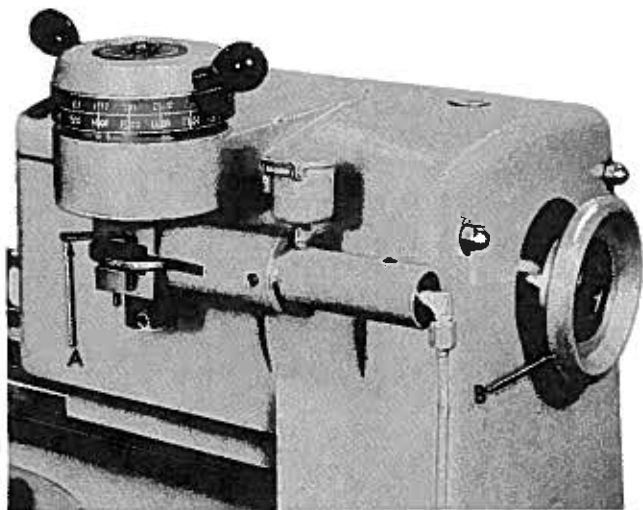
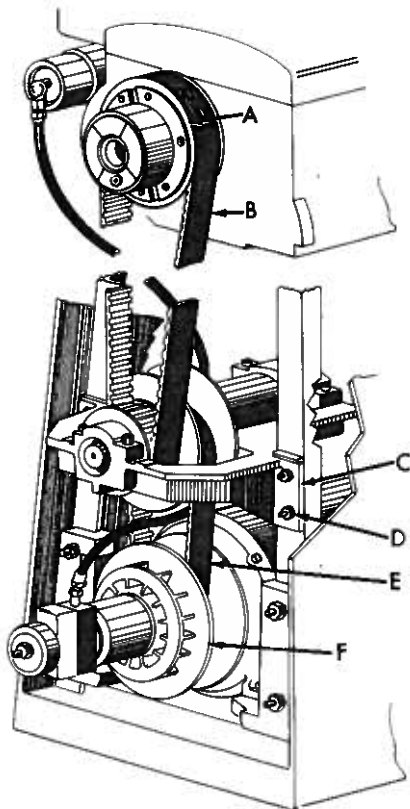
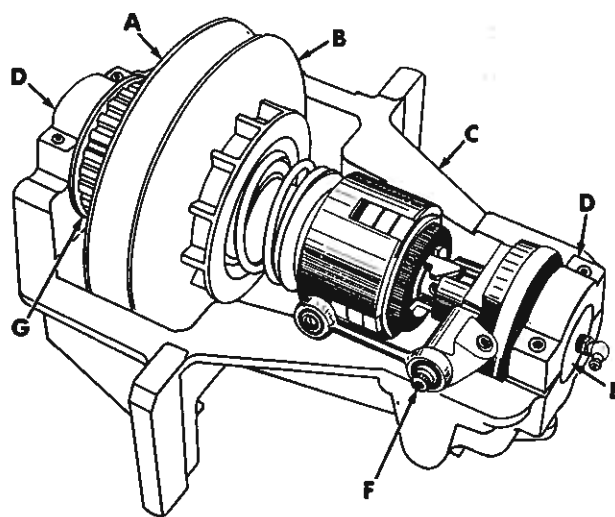
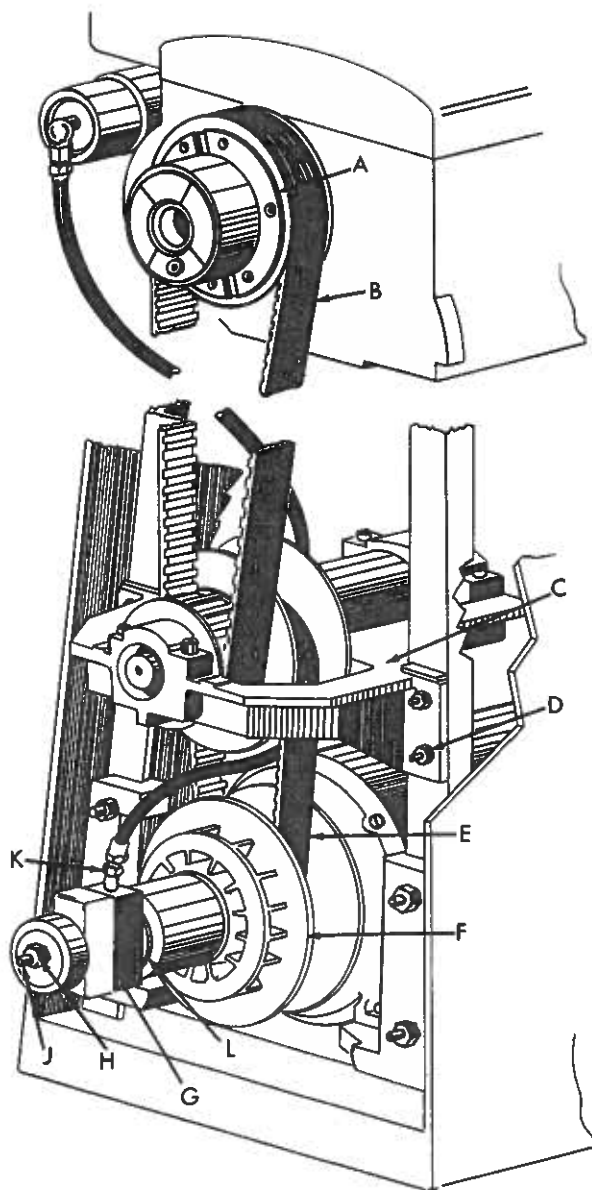

Figure 21
Figure 22
Figure 23
Figure 24
2. Remove spindle handwheel (B) (fig. 21), belt guards and front cover.
3. Turn variable dial back to lowest speed and lock dial in place with pin (A).
4. Holding variable dial against low speed stop, pull on outer sheave of lower variable motor pulley (F) (fig. 22) until variable belt (E) is loose.
5. Thru front cover opening, remove 5/16"-18 hex cap screw (F) (fig. 23) and spacer from clutch linkage.
6. Remove four hex nuts (D) (fig. 22). Raise countershaft (C) slightly and slip timing belt (B) off spindle pulley (A). Lower countershaft and slip variable belt (E) off variable motor pulley (F).
8. Remove bearing caps (D) (fig. 23), snap rings and countershaft spindle (E) from bracket (C).
11. Install spindle in countershaft bracket and secure in place with snap rings and bearing caps (D).
13. Position the countershaft (C) (fig. 22) so variable belt (E) can be slipped on motor pulley (F), then raise countershaft so timing belt (B) can be slipped on spindle pulley (A).
14. Place countershaft assembly on the four mounting studs (D), then snug up the four hex nuts. Refer to Tensioning Timing Belt steps 2-5.
16. Remove lock pin (A, fig. 21) from variable cam housing.
1. Holding variable pulley (F fig. 24) so it will not rotate, turn lock nut (H) -- clockwise if speed is too low, counter-clockwise if speed is to high.
4. Pull on outer sheave of lower variable motor pulley (F) (fig. 24) until variable belt (E) is loose.
6. Remove four hex nuts (D) (fig. 24). Raise countershaft (C) slightly and slip timing belt (B) off spindle pulley (A). Lower countershaft and slip variable belt (E) off variable motor pulley (F).
9. Remove timing belt from countershaft pulley (G).
10. Place new timing belt on countershaft pulley (G).
11. Install spindle in countershaft bracket and secure in place with snap rings and bearing caps (D). **IMPORTANT:** Make sure variable belt is in place before installing bearing caps.
12. Position the countershaft (C) (fig. 24) so variable belt (E) can be slipped on motor pulley (F), then raise countershaft so timing belt (B) can be slipped on spindle pulley (A).
13. Place countershaft assembly on the four mounting studs (D), then snug up the four hex nuts. Refer to Tensioning Timing Belt Steps 2-5.
15. Remove lock pin (A, fig. 21) from variable cam housing.
2. Measure distance from end of shaft (J, fig. 24) to locknut (H). NOTE: Record this dimension.
3. Disconnect fitting (K) and drain oil from unit.
4. While holding variable pulley (F) from rotating remove locknut (H).
5. Pull dual hydraulic cylinder (G) and outer half of variable pulley (F) off the shaft (J).
6. Press dual hydraulic cylinder (G) with bearing (L) from variable pulley (F).
7. Slide new dual hydraulic cylinder with bearing into variable pulley hub (F), then slide the assembly onto shaft (J).
8. Start locknut (H) on shaft (J).
9. Hold the variable pulley so it will not rotate and then turn locknut (H) onto shaft (J) until distance from the end of the shaft (J) to locknut (H) is the same as step 2.
10. Start fitting (K) onto hydraulic cylinder (G). NOTE: Do not tighten.
12. Keep oil reservoir filled, hold variable dial against low speed stop until oil runs out around fitting (K) -- it takes a few minutes for oil to run down.